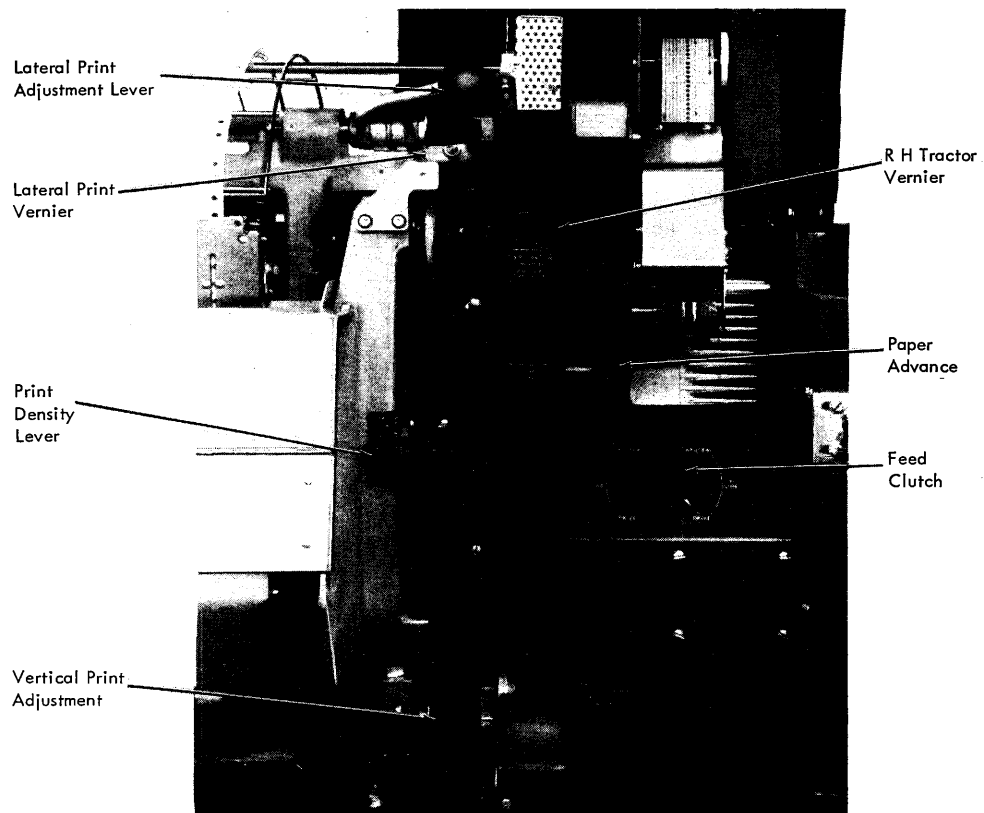

Figure 21. Printer Setup Controls
Feed Clutch - The feed clutch (Figure 21) controls the carriage tape drive and form feeding mechanism. Forms can be fed automatically when it is set to drive. In drive position, either six or eight lines-per-inch is selected. With the clutch set to neutral, automatic form feeding cannot take place, but the tape-controlled carriage does function under program control or a carriage control key.
2. Turn the feed clutch to neutral (see Figure 21).
2. Turn the feed clutch to neutral (Figure 21).
9. Tighten the tension on the form, using the RH tractor vernier (Figure 21).